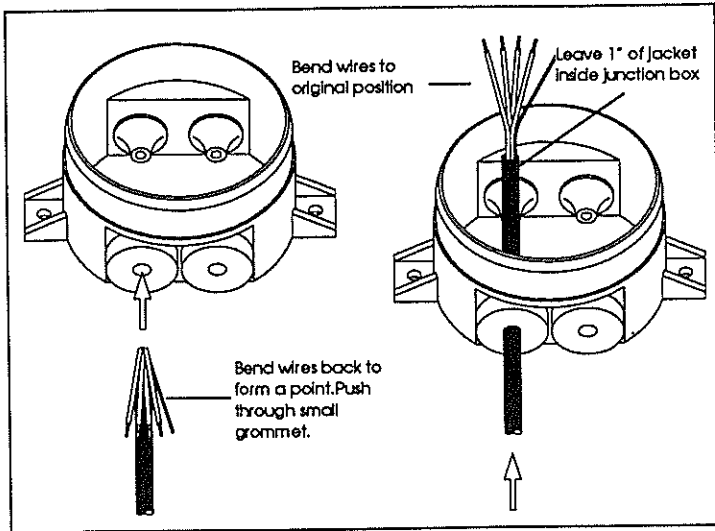

FIGURE 2. PUSHING NEW INSERT CABLE THROUGH GROMMET
4. Bend the pre-stripped wires of the new replacement insert cable back against the cable jacket, as shown in Figure 2. Push the cable through the 3'-5' punctured grommet until all wires are inside the junction box.
4. Bend the pre-stripped wires of the new insert cable back against the cable jacket and insert in junction box, as shown in Figure 2.